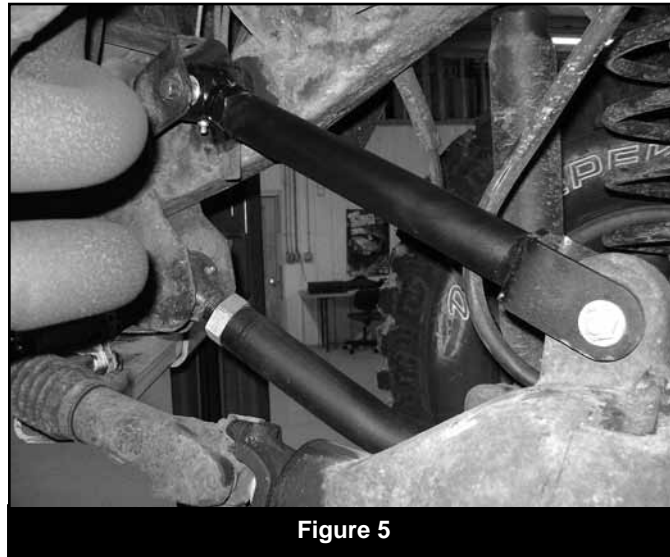

Figure 5
23. Install the new upper control arms to the axle with the provided 10mm hardware (BP738). Use the factory hardware at the frame and the grease fitting should be on the bottom. (Fig 5). Leave hardware loose.